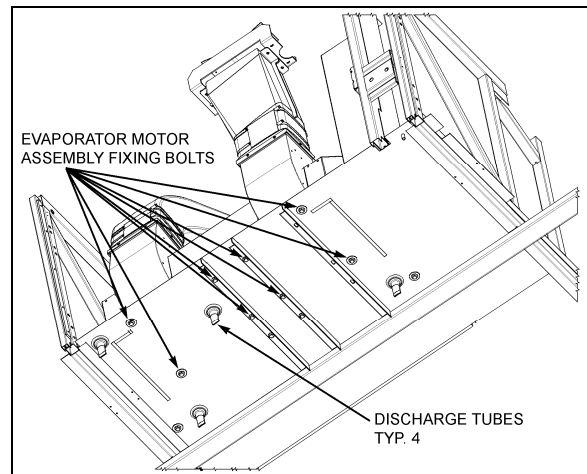

FIGURE 27: EVAPORATOR MOTOR ASSY FIXING BOLTS 22315
- From under the vehicle, remove the eight bolts retaining the evaporator fan motor support. Remove the complete unit from the evaporator compartment (Fig. 27 & 28).